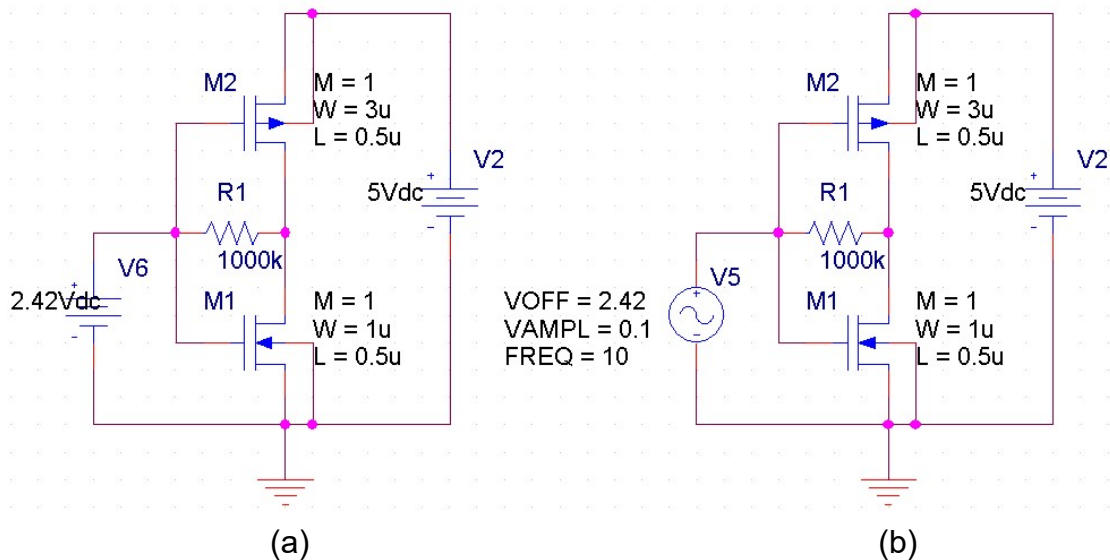

Fig. 6.14 (a) DC analysis of the OPAMP with feedback resistor, (b) time domain analysis of the OPAMP
- (1) Use PSpice to do the DC analysis on the circuits in Fig. 6.14 (a), set the aspect ratio (W/L) of PMOS to 3/0.5 (μm) and 1/0.5 (μm) for NMOS. Then connect a
resistor with $1\text{Meg}\Omega$ as shown in Fig. 6.14(a). Plot the input-output transfer curve of this circuit and write down the threshold voltage.
- (2) Change the resistor to 1K in Fig. 6.14 (a) and compare the threshold voltage in (1). Please explain the simulation result
- (3) Please use the circuit in Fig. 6.14 (a) and write down the threshold voltage. Change the input voltage source into VSIN and set the amplitude to 0.1V and frequency to 10Hz as Fig. 6.14 (b). Does the gain (amplitude of V_{out} /amplitude of V_{in}) match to the transfer curve? If the output signal amplitude does not match to the transfer curve, why? (Hint: please change the frequency of input signal, and briefly explain the reason for the differences of the output signal)